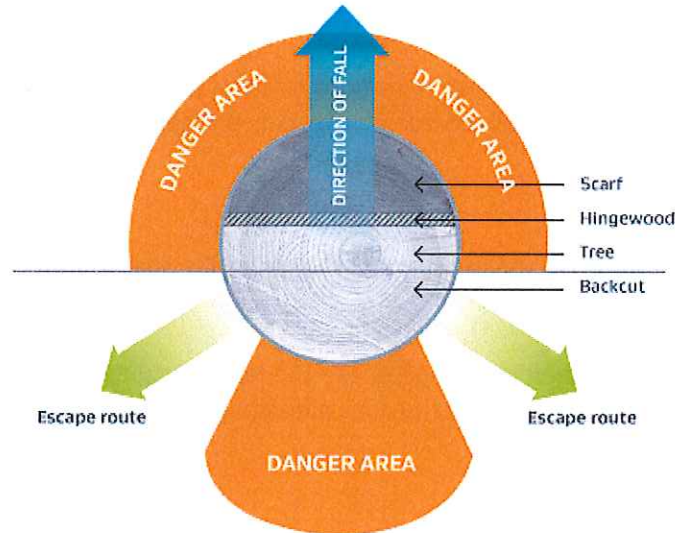

Figure 1. Escape route positioning
- Always think about your escape route before you begin any felling cuts. Where possible, the escape route should be at a 45-degree angle opposite the felling direction. (See Figure 1.)